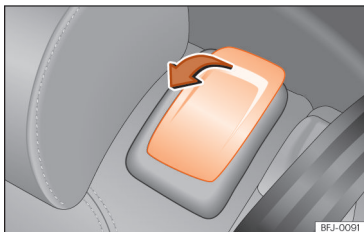

Fig. 112 Second row of seats:: access aid controls.
- Pull the release lever » » **Fig. 112** in the direction of the arrow.
- Pull the lever » » **Fig. 112** and push the backrest backwards until it is in a vertical position. The entire seat folds down » » ⚠.